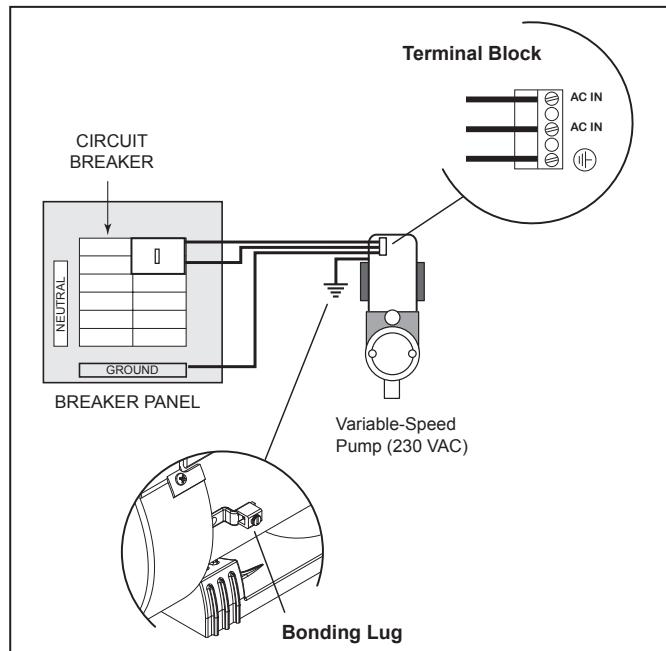

Figure 8. Bonding the Motor
2. Bond the motor using the provided external lug. See Figure 8.